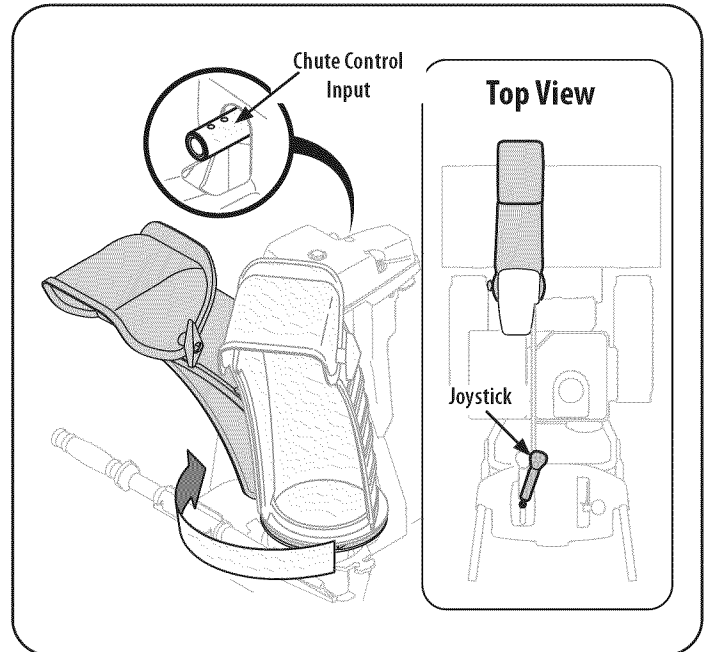
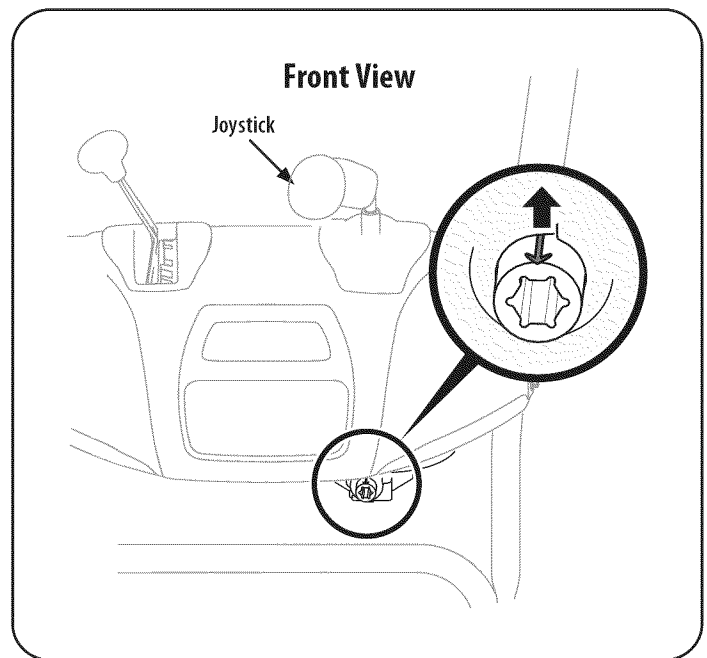

Figure 5
Figure 6
5. Squeeze the trigger on the handle panel joystick and rotate the chute by hand to face forward. The holes in the chute control input will be facing up. See Figure 5.
6. Rotate the joystick to the one o'clock position so the silver indicator arrow on the input shaft below the control panel points upward. See Figure 6.
NOTE: The joystick will be angled slightly to the right. See Figure 5 & Figure 6.